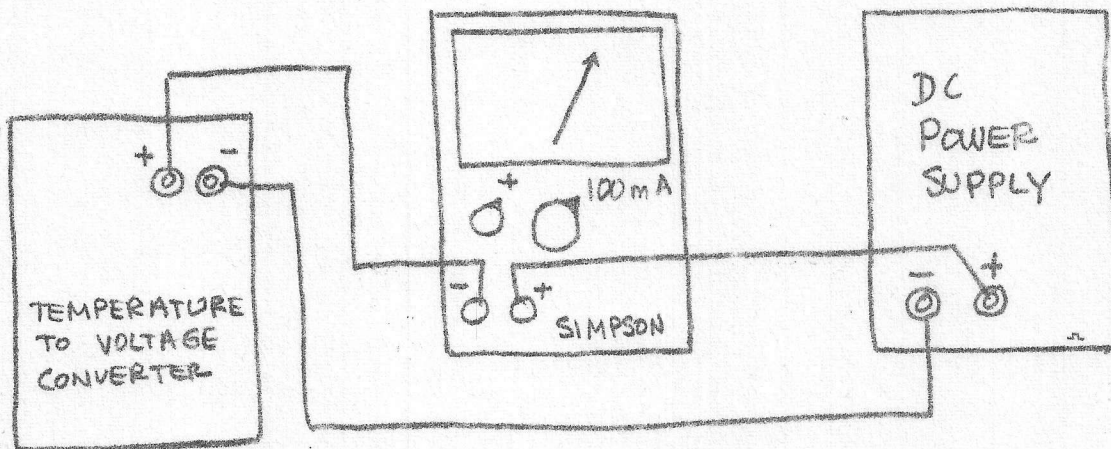

Fig. 4 Connections for Charging Battery in the Temperature to Voltage Converter.
3. Connect as shown in Figure 4.